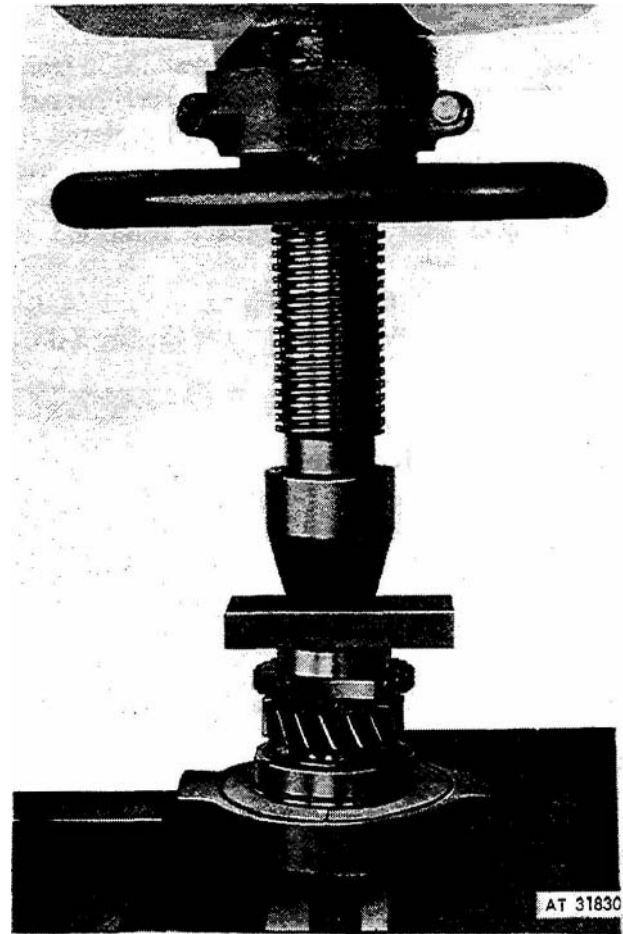

Figure 3-34. Pressing on clutch gear bearing.
(20) Press clutch gear bearing onto clutch gear, position so that locating ring is toward shaft end of clutch gear (fig 3-34).